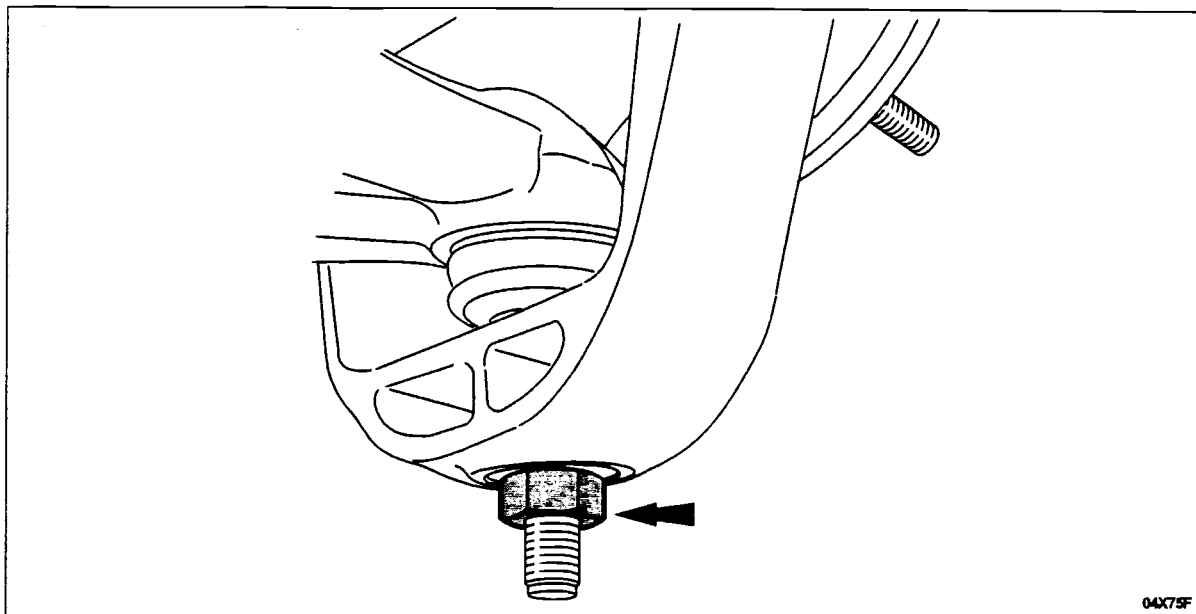

**FIGURE 5**
4. Remove the lower shock absorber and spring assembly bolt, then remove the shock absorber and spring assembly from the vehicle. See Figure 5.